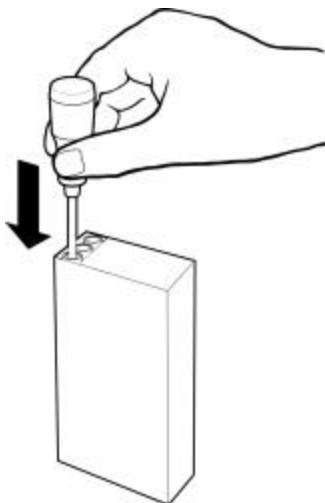

FIGURE 11
- 3) Load a probe cover onto the probe by holding the probe collar with the thumb and forefinger, being careful not to hold or press the ejection button. Refer to Figure 11.